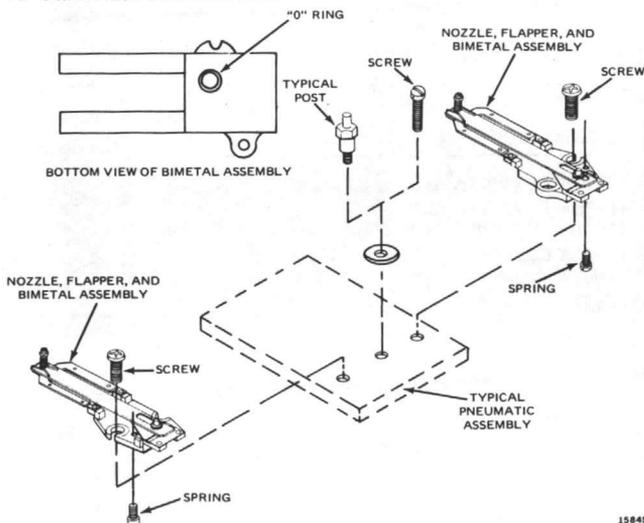

Fig. 19. Nozzle, Flapper, Bimetal Assembly Replacement.
4. Remove the Phillips screw and the defective assembly (Fig. 19).